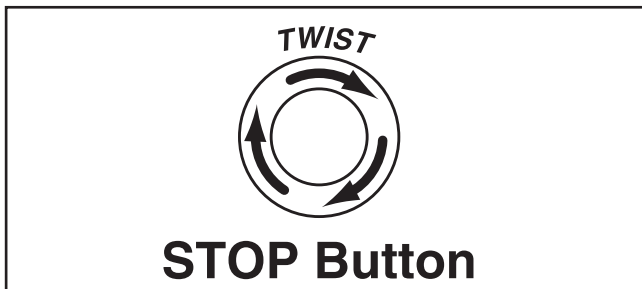

Figure 20. Resetting emergency stop button.
4. Rotate Emergency Stop button (see **Figure 20**) clockwise to reset.